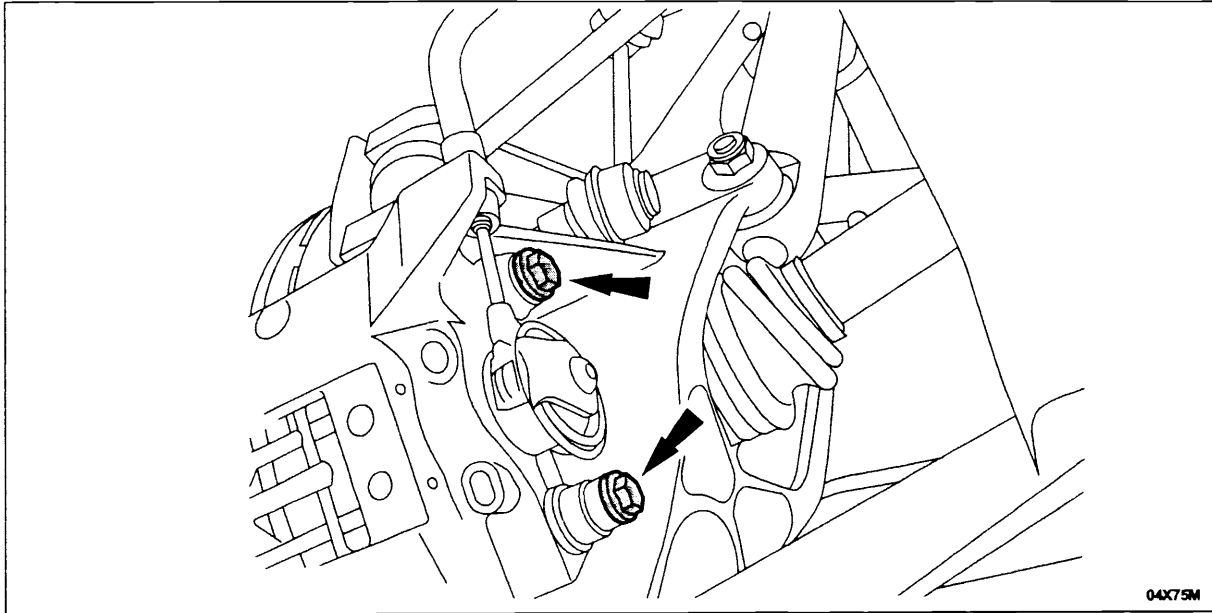

FIGURE 13
3. Remove parking brake caliper-to-knuckle bolts, then pull the caliper off the knuckle and support with mechanic's wire or a bungee cord. See Figure 13.